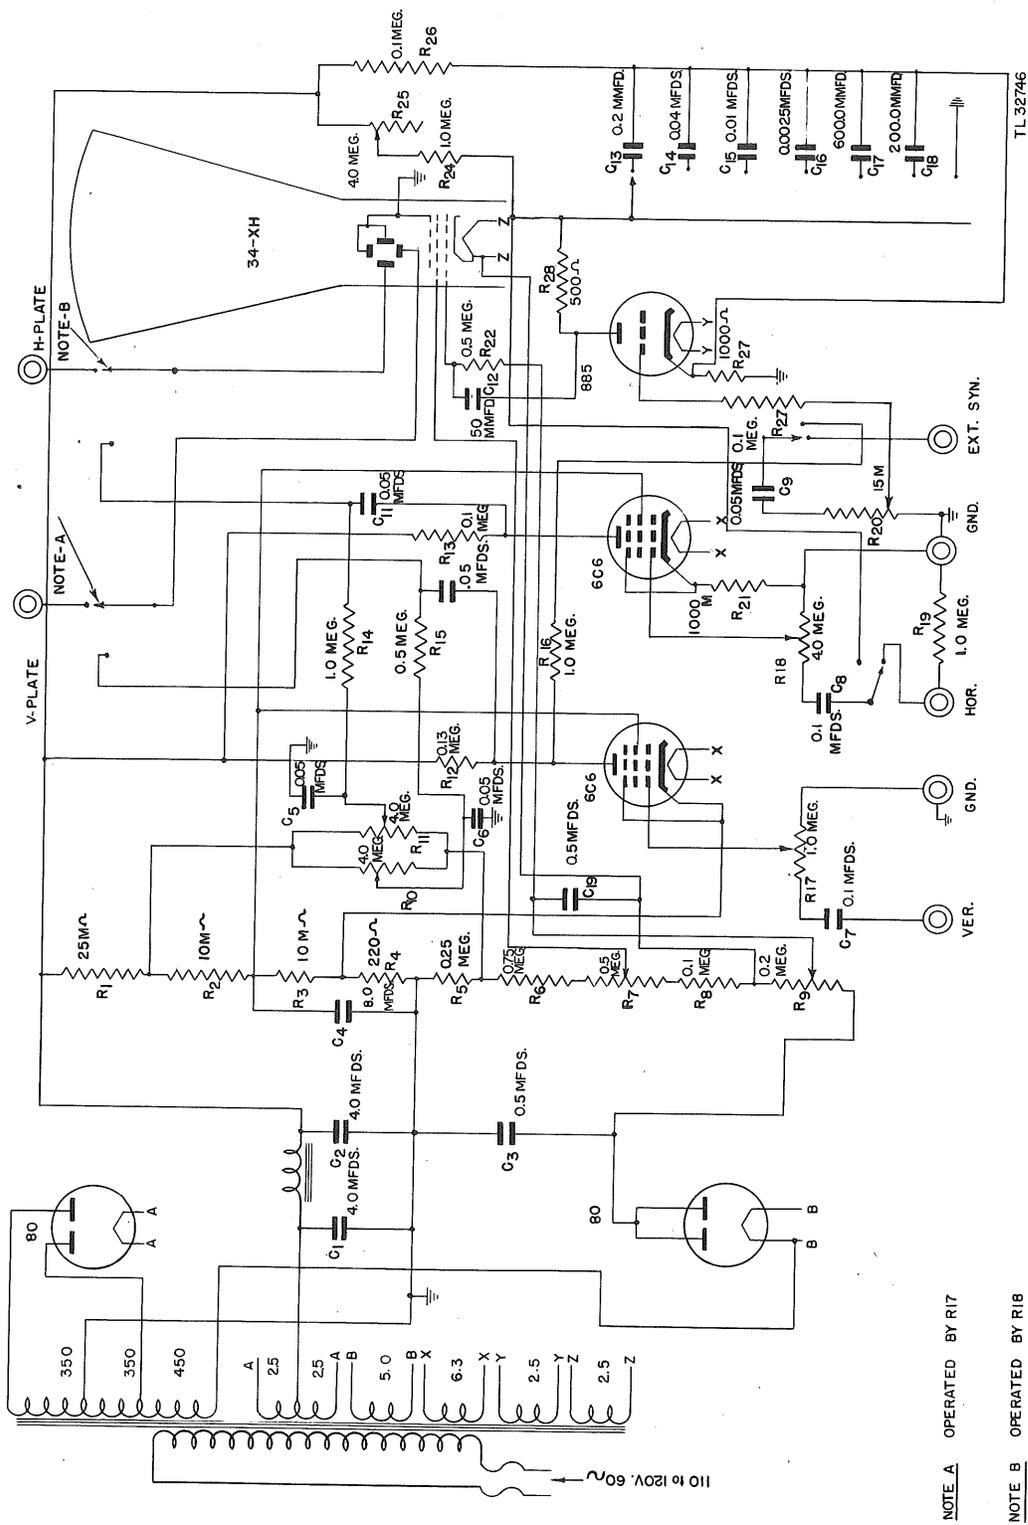

Figure 29. Oscilloscope, Supreme model 546, schematic diagram.
a. *General.* (1) Oscilloscope Supreme model 546 is a complex instrument; therefore, no maintenance must be attempted by inexperienced personnel.
(2) Complete maintenance on this oscilloscope will consist chiefly of tube and fuse replacement and, to a lesser extent, replacing component parts. Fault location can be ascertained by continuity tests, resistance measurements, voltage readings, signal tracings, and visual inspection.
(3) The schematic diagram (fig. 29) contains information concerning power supply voltages and values of component parts.
d. *Fuse Replacement.* (1) A 2-ampere fuse is used in the primary circuit of the power transformer. This fuse is intended for the protection of the entire power system of the oscilloscope and should not be replaced by a fuse having a higher current rating; neither should it be shorted out. Before a replacement is made the fuse failure should be carefully investigated, since there usually is a definite cause for the break-down. A surge in current from the power-supply line or shorted rectifier-tube elements may be the cause.
(2) In the event of a fuse break-down, first check the power source. If the trouble seems to be internal, disconnect the oscilloscope from the power source and remove the chassis from the metal case. Remove the two type-80 rectifier tubes, apply power, and check the voltages on the secondary of the power transformer. If these values conform to those listed on the schematic diagram (fig. 29), disconnect the power and check C1 and C2, the filter capacitors. These are electrolytic capacitors and cannot be correctly measured by an ohmmeter unless polarity is observed. After the rectifier tubes are removed, if the instrument continues to blow fuses, check the power transformer for a possible short circuit between the windings and the terminations.
e. *Tubes.* (1) All tubes except the type-906 cathode-ray tube, can be tested with the tube tester and replaced when necessary. The amplifier, oscillator, and the two rectifier tubes will wear in accordance with loss of emission; whereas the determining factor in the life of the cathode-ray tube is the deterioration of the fluorescent screen. Excessive wear and aging of this tube are indicated both by inability to obtain satisfactory focus, and by evidences that the screen is becoming streaked and spotted.